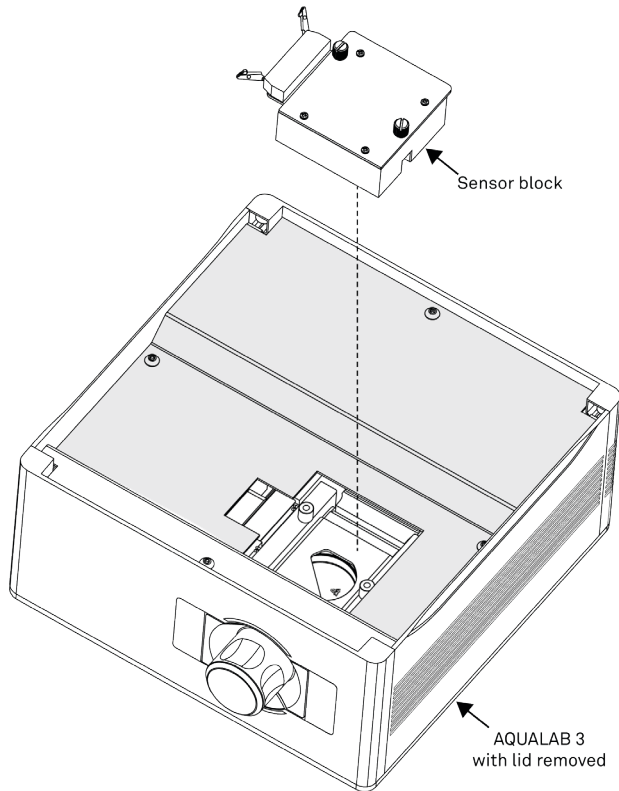

**Figure 84** Sensor block in AQUALAB 3
5. Pull out on the side tabs to unplug the ribbon cable (Figure 84).